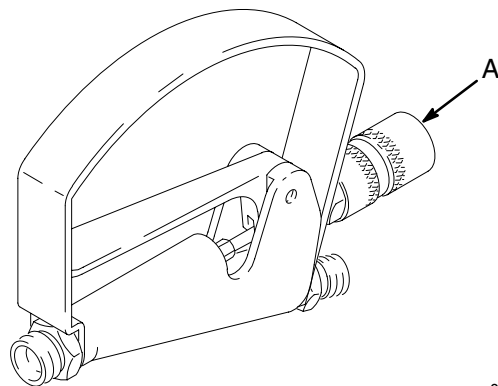

Fig. 2
To lock the safety knob (A), turn the knob fully clockwise; this locks the needle in the forward position. To unlock the safety knob, turn the knob fully counter-clockwise. See Fig. 2.